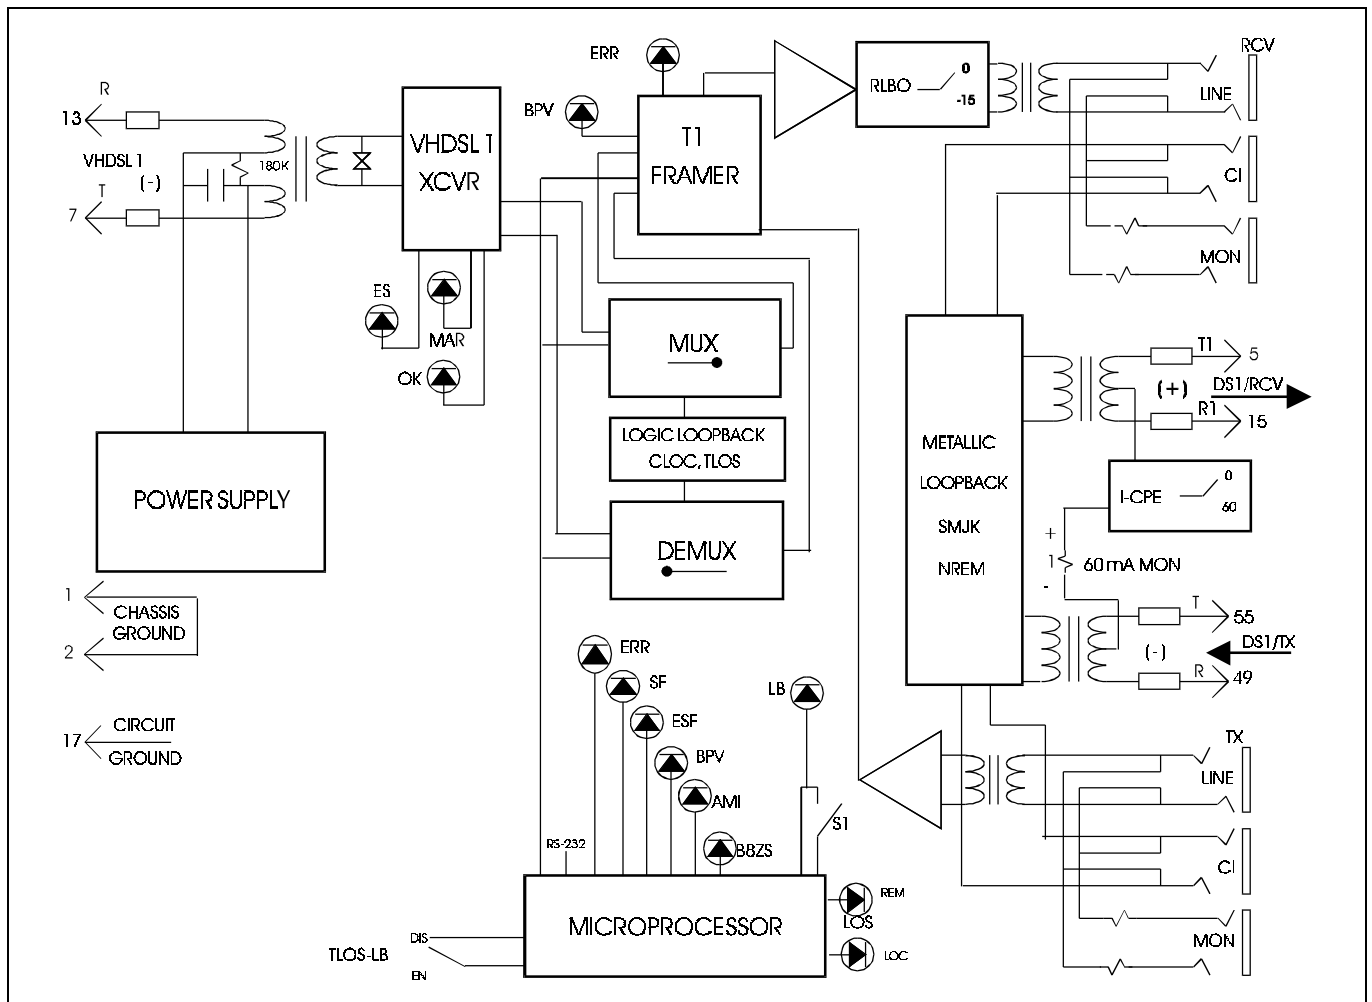
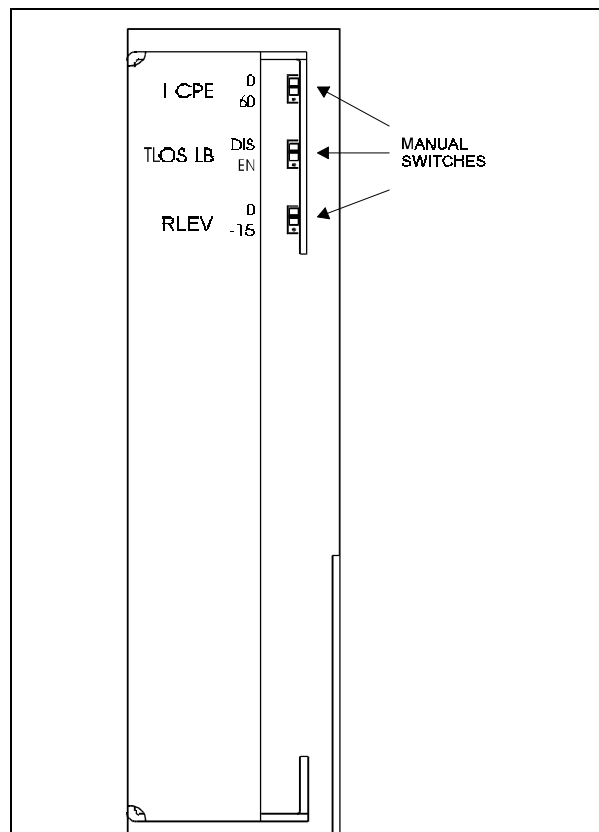
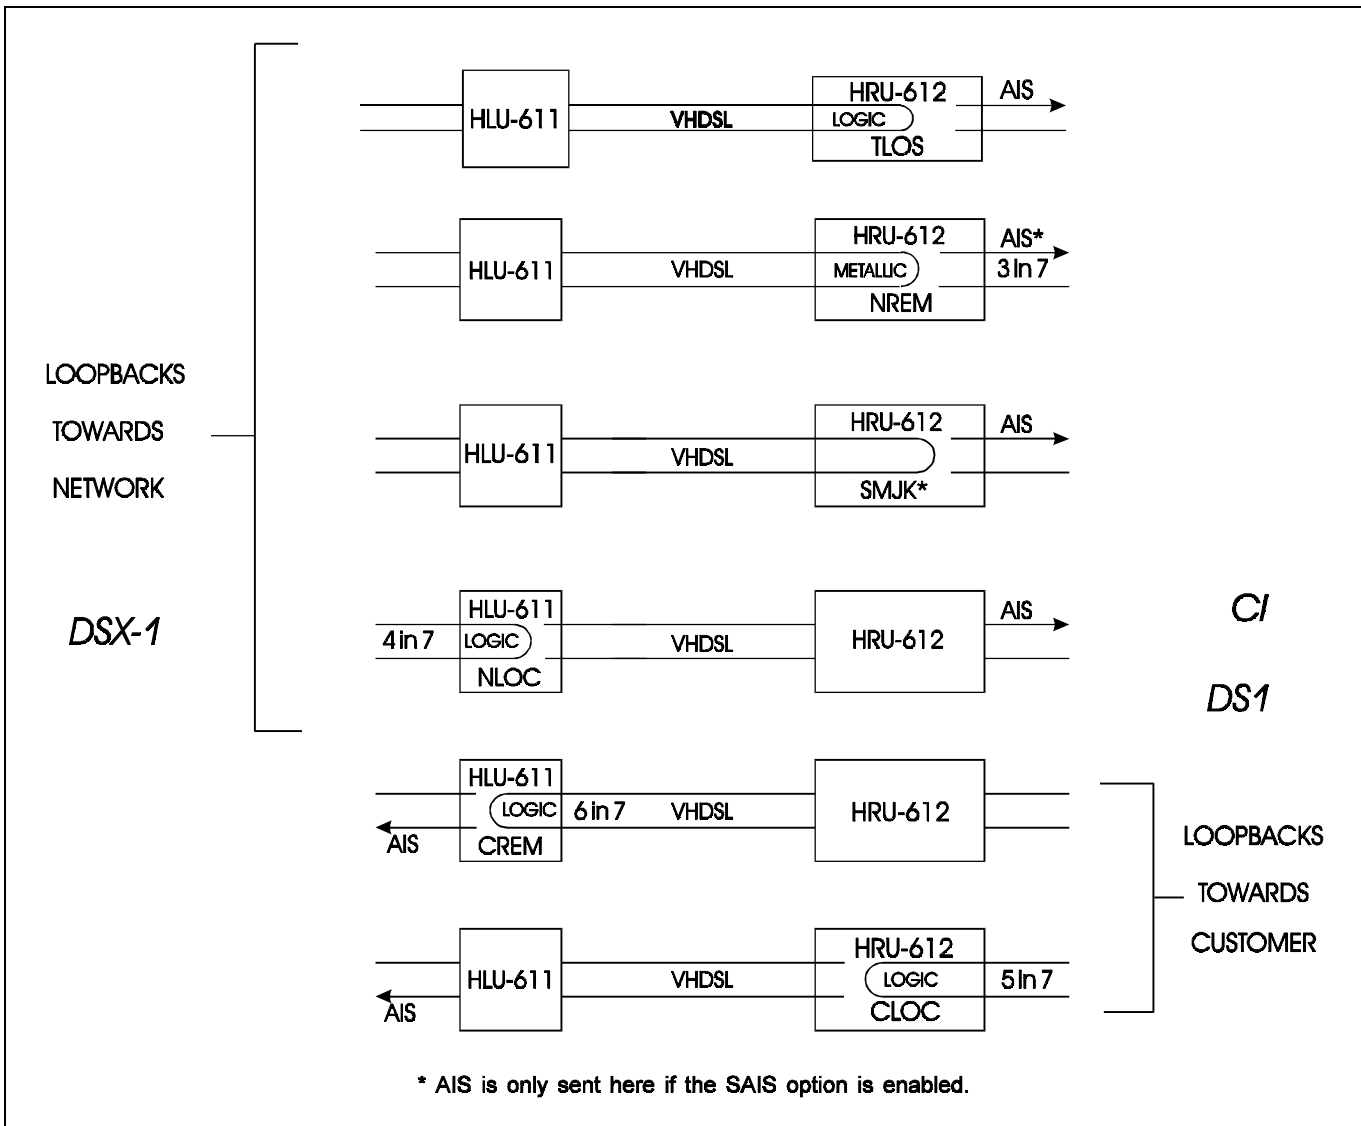

Figure 2. HRU-612 List 2 Block Diagram.
Figure 4. HRU-612 Manual Switches
Figure 5. HRU-612 Loopbacks.
RCV & XMT ACCESS JACKS - These provide both splitting and monitor access jacks to the CPE DS1 interface. See Figure 2 for circuit details. Note that these jacks are transformer isolated from the CPE DS1 metallic interface.
9.01 The HiGain-2 List 2 system has several special loopback (SPLB) options that are set at the HLU. Refer to practice # 150-611-100 for more details. The HRU also has three user options set by switches located at the back of the unit as shown in Figure 4. Each switch has two settings as follows (refer to the block diagram in Figure 2 for details):
EN: A loss of the T1 XMT signal from the CPE forces the HRU to enter its logic loopback state (TLOS in Figure 5). While in this loopback state, the HRU transmits the AIS signal towards the CPE and returns the Network signal back to the Network. The HLU displays the message TLOS in its 4 character front panel read-out. This condition remains until a valid T1 signal is received from the CPE or until a loopdown command is issued. Note that once the TLOS initiated loopback has occurred, it can not reoccur until the CPE T1 signal has been reapplied and then removed. This "latching" feature prevents the HRU from oscillating into and out of TLOS loopback when a loopdown command is issued in the absence of a T1 signal from the CPE.
10.01 Figure 5 shows all four HRU loopbacks. Of these four, the TLOS and CLOC are logic loopbacks. They occur in the digital multiplexer section of the HRU as shown in Figure 2.
10.02 Both the SMART-JACK and NREM loopbacks shown in Figure 5 execute the standard NID metallic loopback. Their only difference is their initiating sequence. NREM is initiated by the HRU front panel pushbuttons, the maintenance terminal, the HLU front panel pushbuttons, or the 3 in 7 band command. The SMART-JACK loopback is only initiated by the standard 3 in 5 inband loop-up command. It has two modes of operation as determined by the two states (ENA or DIS) of the AIS on SMJK/NREM option that is controlled by the HLU. The ENA option causes the HRU to transmit the AIS signal towards the NI. The DIS option turns off this AIS/NI signal
10.03 ENA: Upon detection of a valid SMART-JACK loopback command, a metallic loopback relay (see Figure 2 for its location) is energized and the T1 interface chip transmits the AIS pattern to the NI and also back to the HRU's T1 receiver circuit. In addition, the customer's T1 XMT input is disconnected and terminated into 100 ohms. The AIS pattern is examined by the HRU for its overall integrity. This pre-looped tests lasts for about 100 milliseconds and terminates in one of the following two conditions:
2	Verify that the GREEN HRU front panel loopback LB NET LED turns on, indicating that the HRU is in its (NREM) loopback state. Also verify, if possible, that the HLU displays the message "NREM" also indicating that the HRU is in loopback (see Figure 5).